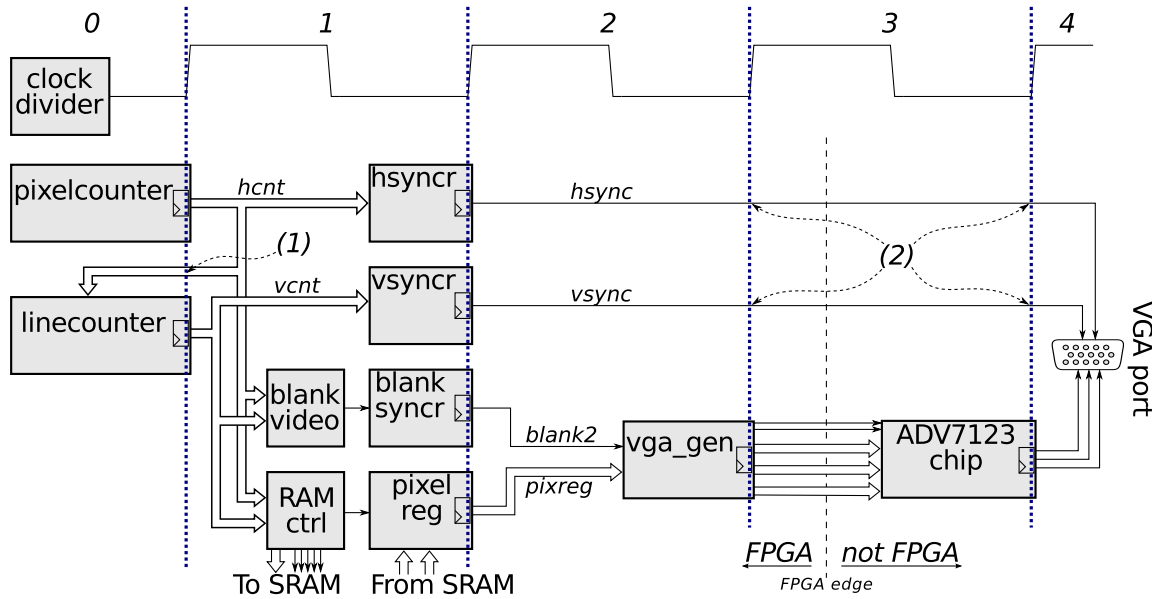

Figure 8: The pipelining of the system.
Divide your application into the four pipeline stages 0, 1, 2 and 3, as depicted in Fig. 8. It is important to point out that the clock divider defines the clock, and does *not* belong in any pipeline stage. Note the series of registers that are put into all units crossing the pipeline borders, which means that their output is in the “next” pipeline stage.
The alert reader will notice two problems with the solution depicted in Fig. 8. They are pointed out with (1) and (2) respectively (in the figure), and they are discussed below: